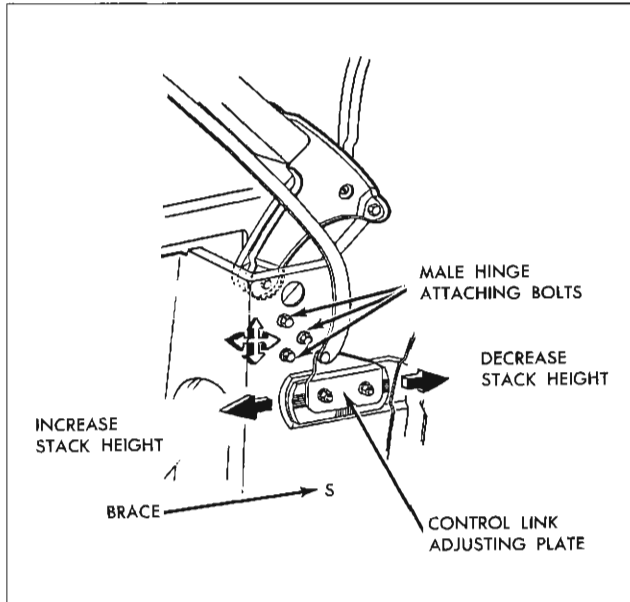

Fig. 21-5 Pontiac Control Link Adjustment
- c. Loosen two bolts securing control link adjusting plate sufficiently to permit adjustment of plate (Figs. 21-5 and 21-6).
b. Loosen male hinge assembly attaching bolts (see Figs. 21-5 and 21-6).